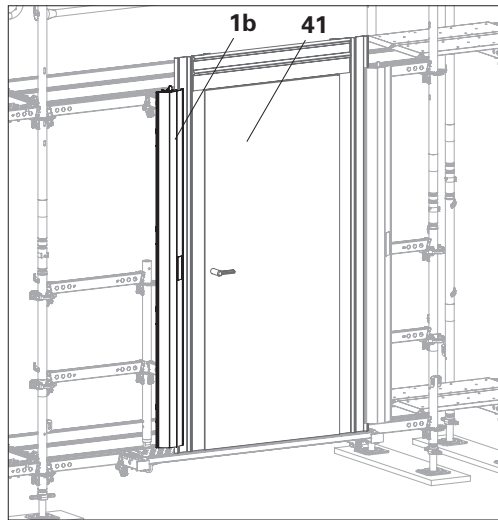

Fig. C7.04
1. Raise the construction site door (**41**) and secure it against falling over. Fit the second support rail (**1b**) on the opening side. (Fig. C7.04)